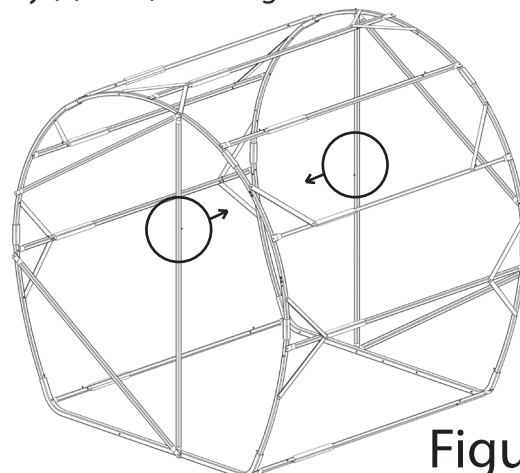

Figure 27.1
STEP 19: Repeat Step 18 to create the support system for the opposing end hoop, with the exception that there will not be a Wing Nut used in this step, only (4) Nuts, resulting in the frame illustrated in Figure 27.1.